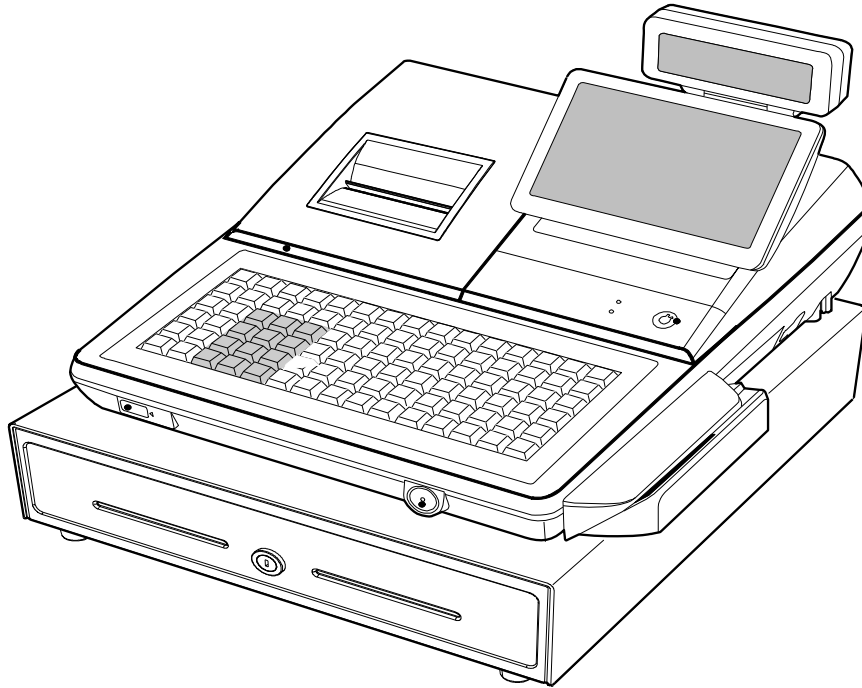

Figure 3-5 MSR Installation (3)
1. Figure 3-5 shows the MSR Assembly is in position